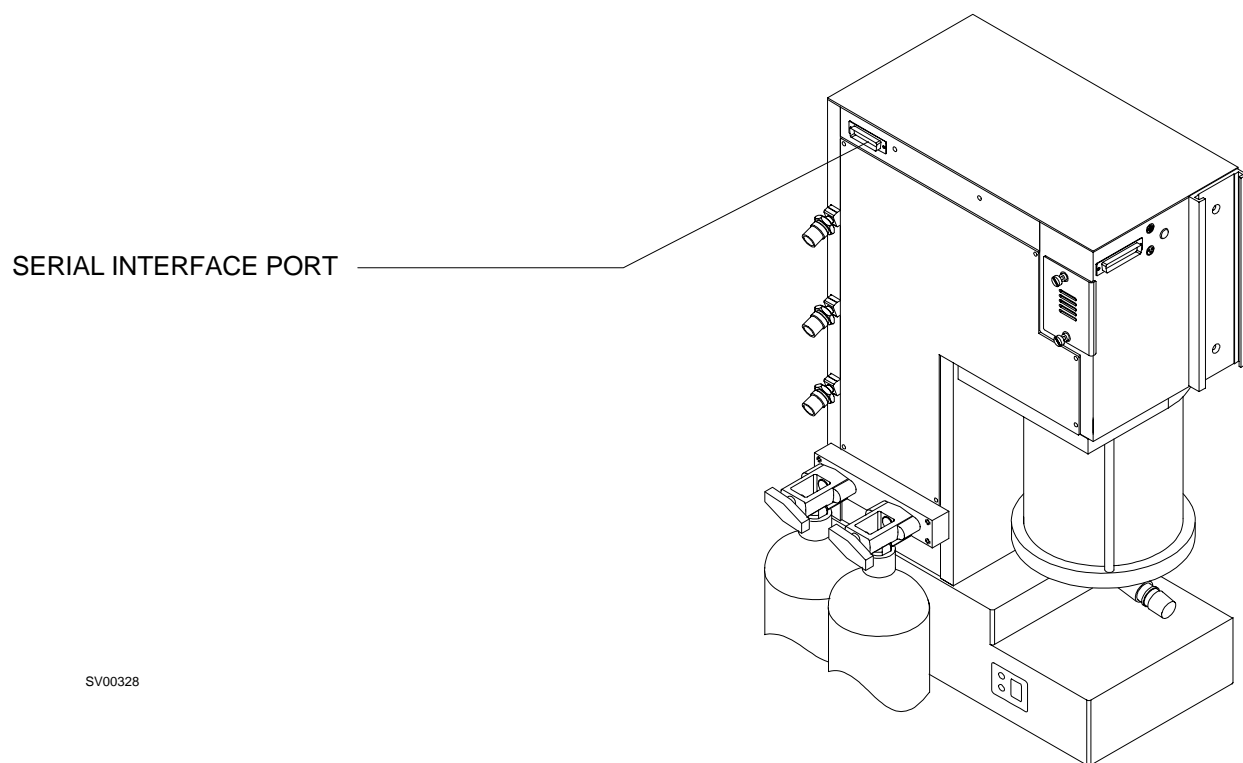

Figure 7-1. Narkomed Mobile Serial Port Location
- 7.2.2 Connect the appropriate interface cable (9-pin or 25-pin) to COM 1 on the PC, and connect the other end of the cable to the Narkomed Mobile serial interface port as shown in Figure 7-1.